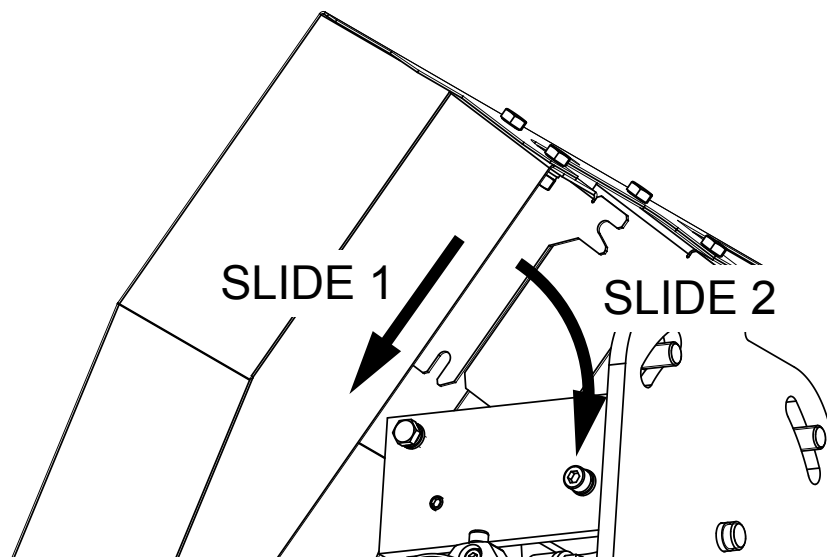

Figure 10: Installation View 3
(4) Slide the sunshade assembly onto 2 hexagon screws (M6x12)(B).
(5) Tilt the sunshade to horizontal position so that sunshade assembly slide onto 2 socket cap screws (M6x12)(C).
(6) Tighten 2 hexagon screws (M6x12)(B) and 2 socket cap screws (M6x12)(C). Refer to Figure 10: Installation view 3.